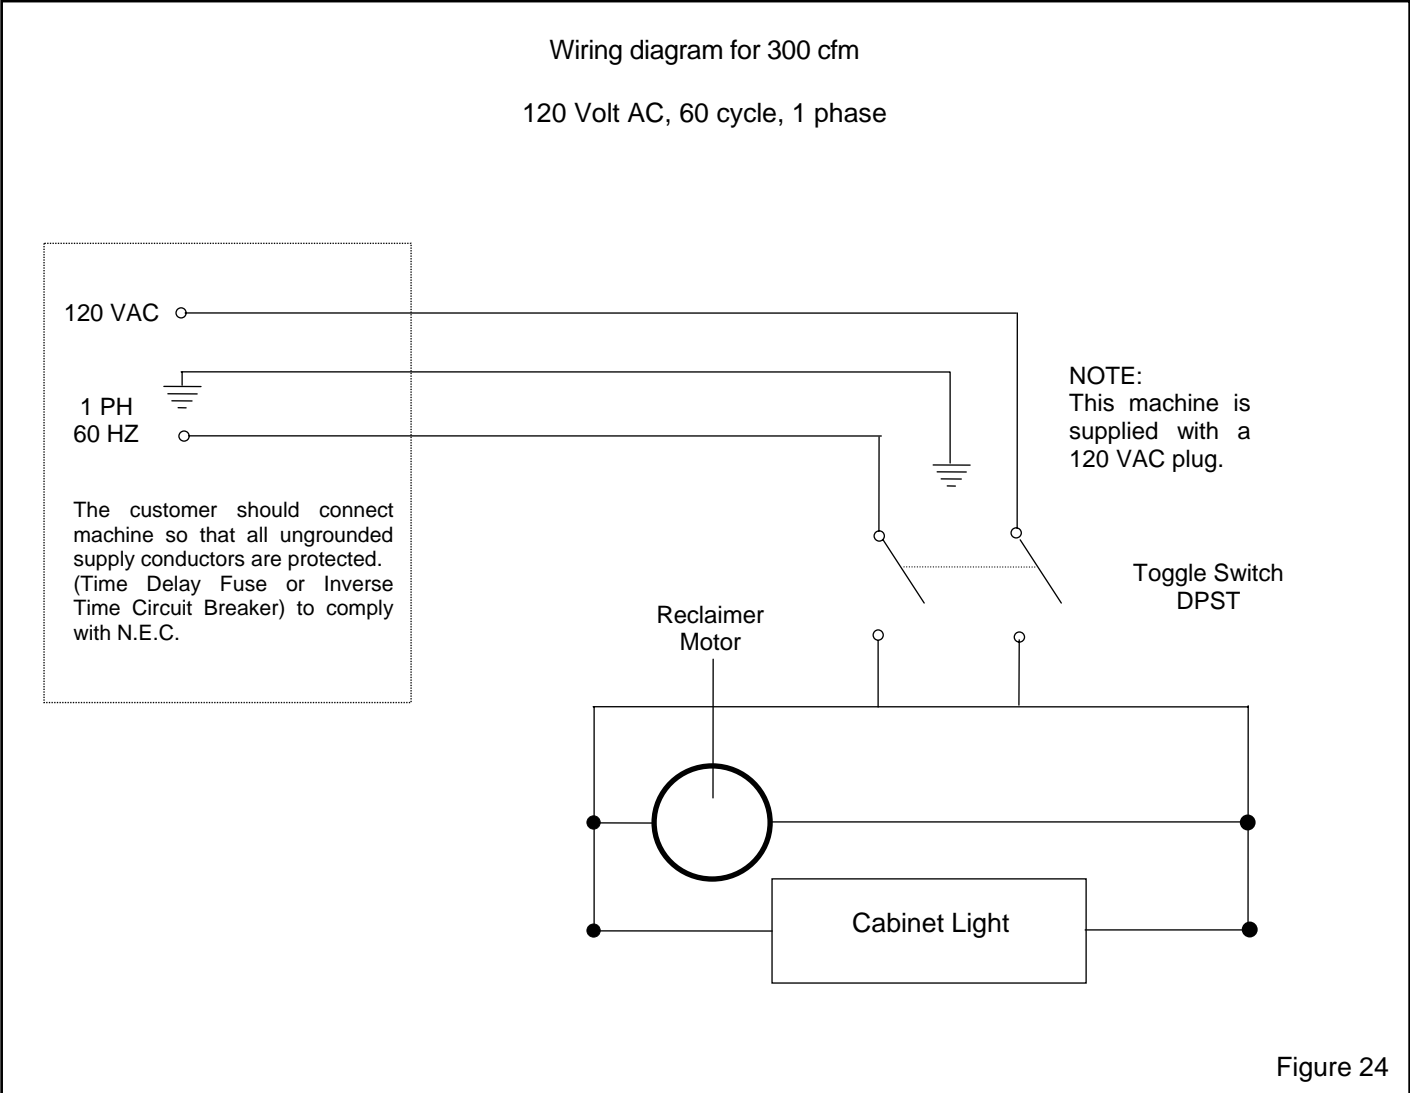

Figure 24
8.10 Wiring Schematic, Figure 24